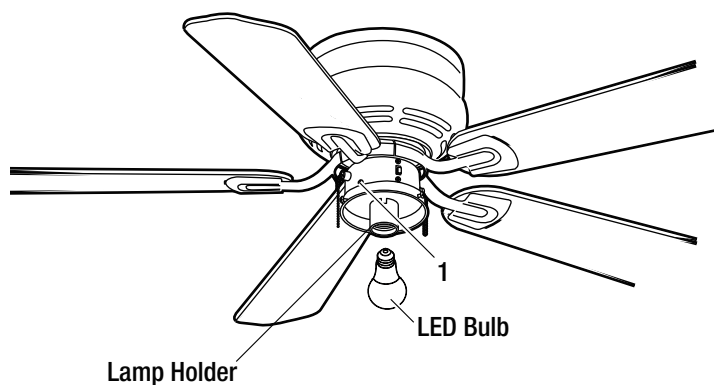

Figure 14
- Install a LED bulb (max. 9.5W, medium screw base) to the lampholder (Figure 14).